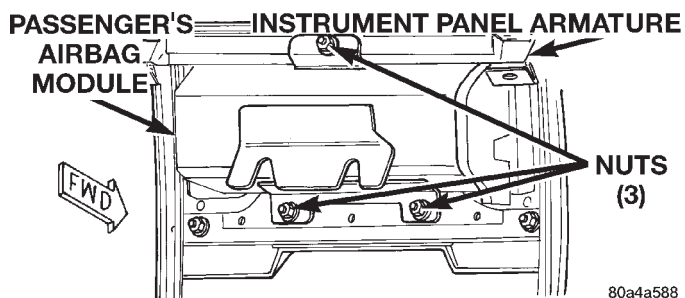

Fig. 12 Passenger Side Airbag Module Remove/Install
(2) Remove the instrument panel assembly from the passenger compartment of the vehicle. Refer to **Instrument Panel Assembly** in the Removal and Installation section of Group 8E - Instrument Panel Systems for the procedures.
(3) Place the instrument panel on a suitable work surface. Be certain to take the proper precautions to protect the instrument panel from any possible cosmetic damage.
(4) Remove the three nuts that secure the passenger side airbag module to the studs on the instrument panel armature (Fig. 12).